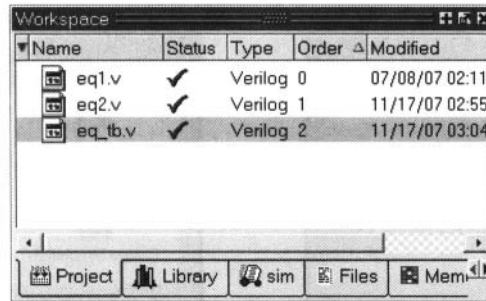

Figure 2.13 Project tab of the workplace panel.
3. In the Add items to the project dialog, click Add Existing File and add the necessary HDL files. Click OK. The project tab appears in the workplace subwindow and displays the selected files, as shown in Figure 2.13.